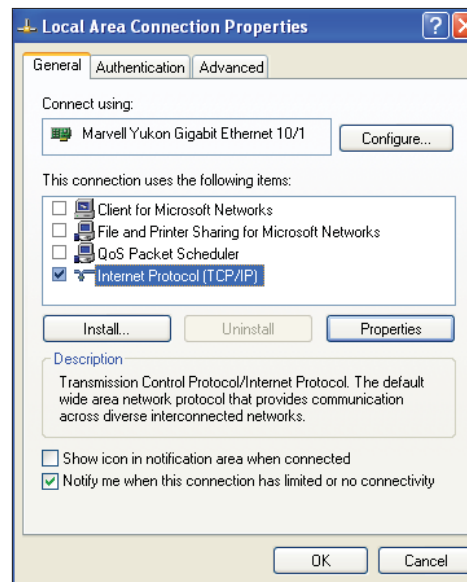

Figure 32: Local Area Connection Properties Window
4. As shown in **Figure 32**, click <Properties> in the lower left of the window. The *Local Area Connection Properties Window* will appear.